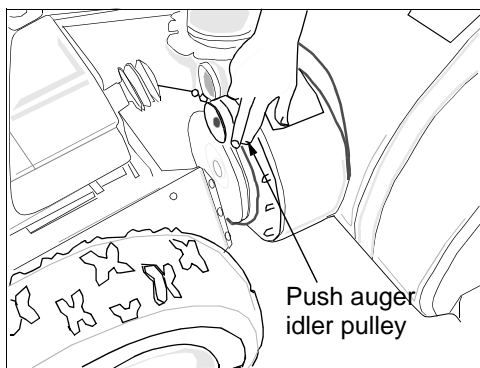

Figure 27
- To remove the front auger drive belt, push the idler pulley to the left. The belt brake should move outward. See Figure 27. Lift the front auger drive belt from the front auger pulley.